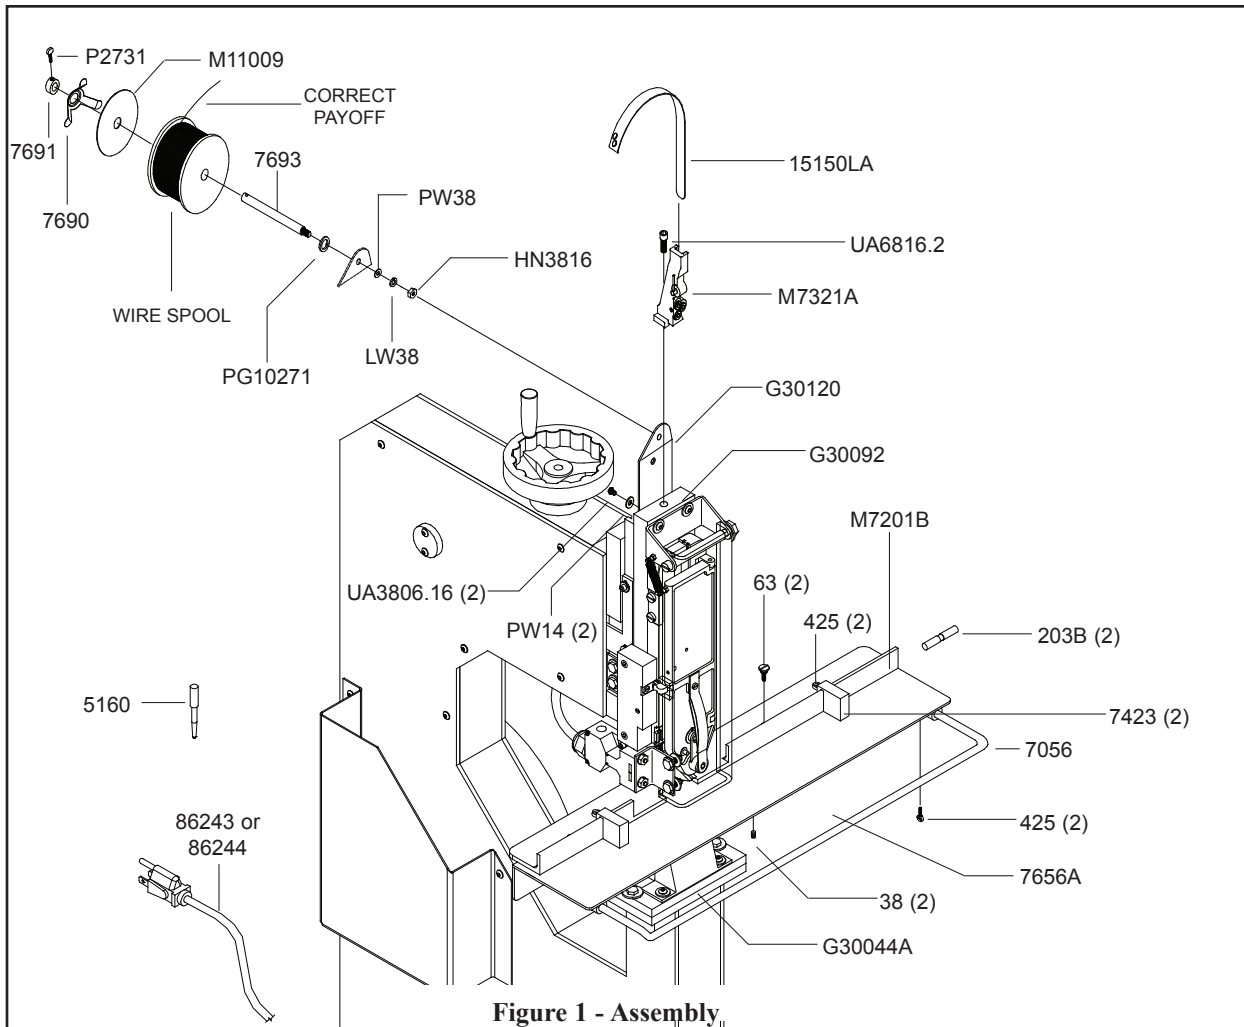

Figure 1 - Assembly₁₁
As you carefully unpack the machine, check to make sure all components were delivered and are in good working order. Refer to **figure 1** in this manual for reference to the following pieces:
Assembly (Figure 1)
Some assembly is required upon delivery of the M7 Stitcher. You will need a flat screwdriver, 5/32" and 3/8 hex head wrenches and a 9/16 open end wrench. Line up the hole in the Wire Straightener Assembly (M7321A) with the screw hole in the Head Mounting Plate (G30092). Secure the assembly with the Socket Head Cap Screw (UA6816.2). Assemble the Wire Spool Bracket (G30120) to the back of the Head Mounting Plate with two (2) Screws (UA3806.16) inserted through two (2) 1/4 Washers (PW14). Remove the Flat Washer (PW38), the Lock Washer (LW38) and the Plain Nut (HN3816) from the Spool Stud (7693) and insert it into the back of the Wire Spool Bracket. Secure the Spool Stud by replacing the Washers and the Nut. Loosen the Thumb Screw (P2731) in the Set Collar (7691) and remove it and the Tension Spring (7690) from the Spool Stud. Slide the Wire Spool over the Spool Stud, making sure that the Flat Washer (PG10271) and the Large Spool Stud Washer (2245) are between the Spool and the Wire Spool Bracket. Also verify that the wire payoff is identical to the payoff in Figure 1. Improper wire payoff will result in poor stitching. Slip the Plastic Washer (M11009) over the Spool Stud and replace the Tension Spring and Set Collar. Apply slight pressure on the Set Collar, pre-loading the Tension Spring, then tighten the Thumb Screw in the Set Collar until secured in position. A properly set Tension Spring will cause the Wire Guide Spring (15150LA) to flex but not actually hit the wire spool.